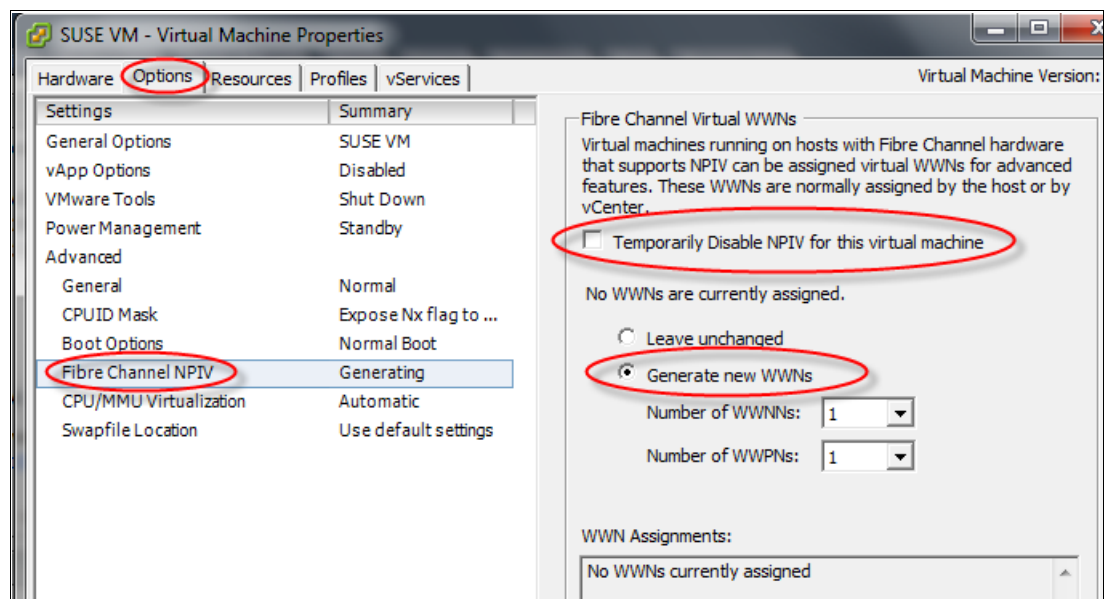

Figure 7-38 NPIV options tab
2. In the Virtual Machine Properties window of the VM, select the **Options** tab and click **Fibre Channel NPIV** as shown in Figure 7-38.